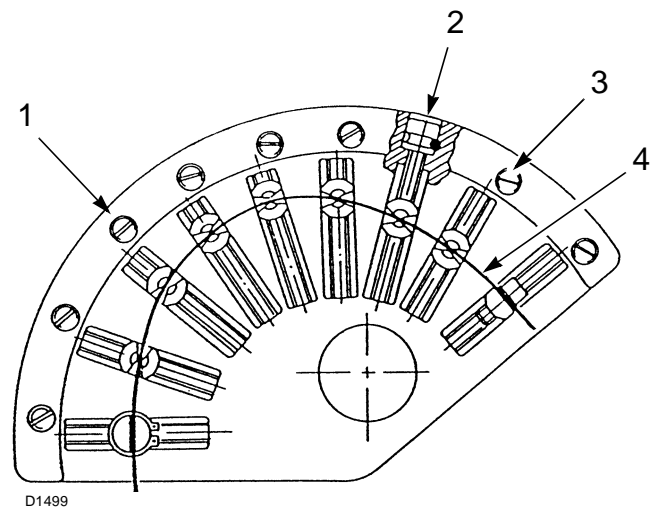

Fig. 36
Progressively adjust the starting profile of cam 1)(Fig. 36) by turning the screws 2) (Fig. 36).
For improved adjustment repeatability, make sure you stop rotation of the cam assembly when the upper bearing running on the profile 4) (Fig. 36) is aligned with one of the adjusting screws 2) (Fig. 36).
Tighten or loosen the preselected screw 2) (Fig. 36) to increase or decrease airflow so as to adapt it to the corresponding gas flow.
Once output adjustments (maximum, medium and intermediate) have been carried out, it is important you secure all the air regulation screws 2) (Fig. 36) with the locking screws 3) (Fig. 36) so as to prevent possible shifting of air-gas setting positions.
Key to layout (Fig. 36)
- B Air cam:** turn the threaded regulators 2) (Fig. 36) after loosening the screws 3) (Fig. 36).
- C Gas cam:** adjust set screws 2) (Fig. 36) after loosening the screws 3) (Fig. 36).
- Proceed with setting the air delivery by adjusting the variable profile cam, by turning the screws 2) (Fig. 36).
- When perfect adjustment has been reached, remember to block the adjustment screws of the cam profiles by tightening the screws 3) (Fig. 36).